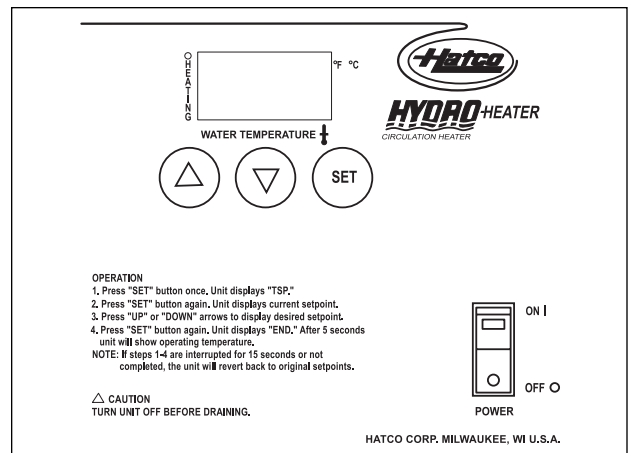

Figure 9. Controller
- 5B. Auto-Fill Units - Verify tank is being filled with water. The electronic display will light up at this time to indicate power is supplied to the unit. See Figure 9.
6. To set the controller to the desired water temperature press "Set" button once; unit will display "t5P." See Figure 9.